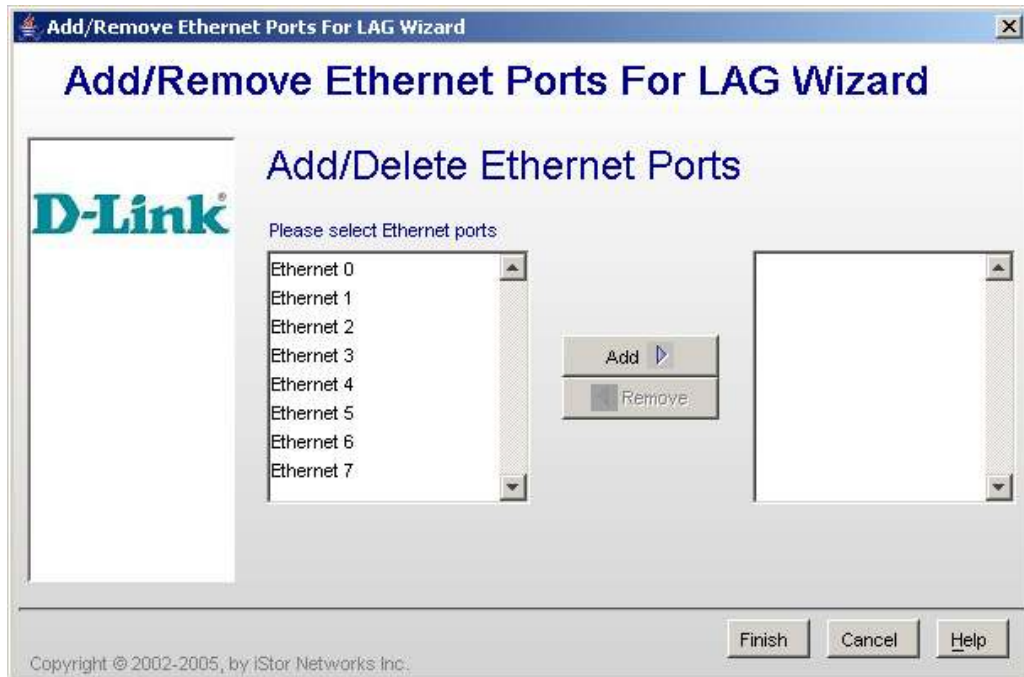

Figure 5-24 Add/Remove Ethernet Ports for LAG Wizard - Add/Delete Ethernet Ports screen
2. On the **Network** menu, click **Configure Physical Port**. The Add/Remove Ethernet Ports for LAG Wizard starts and the Add/Delete Ethernet Ports screen appears (see Figure 5-24).